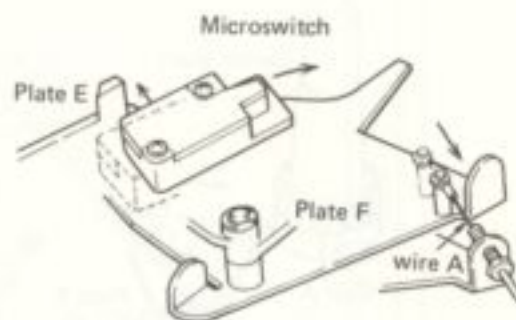

Fig. 8
1. Pressing the START button moves plate F via wire A and the microswitch turns ON (Fig. 8).